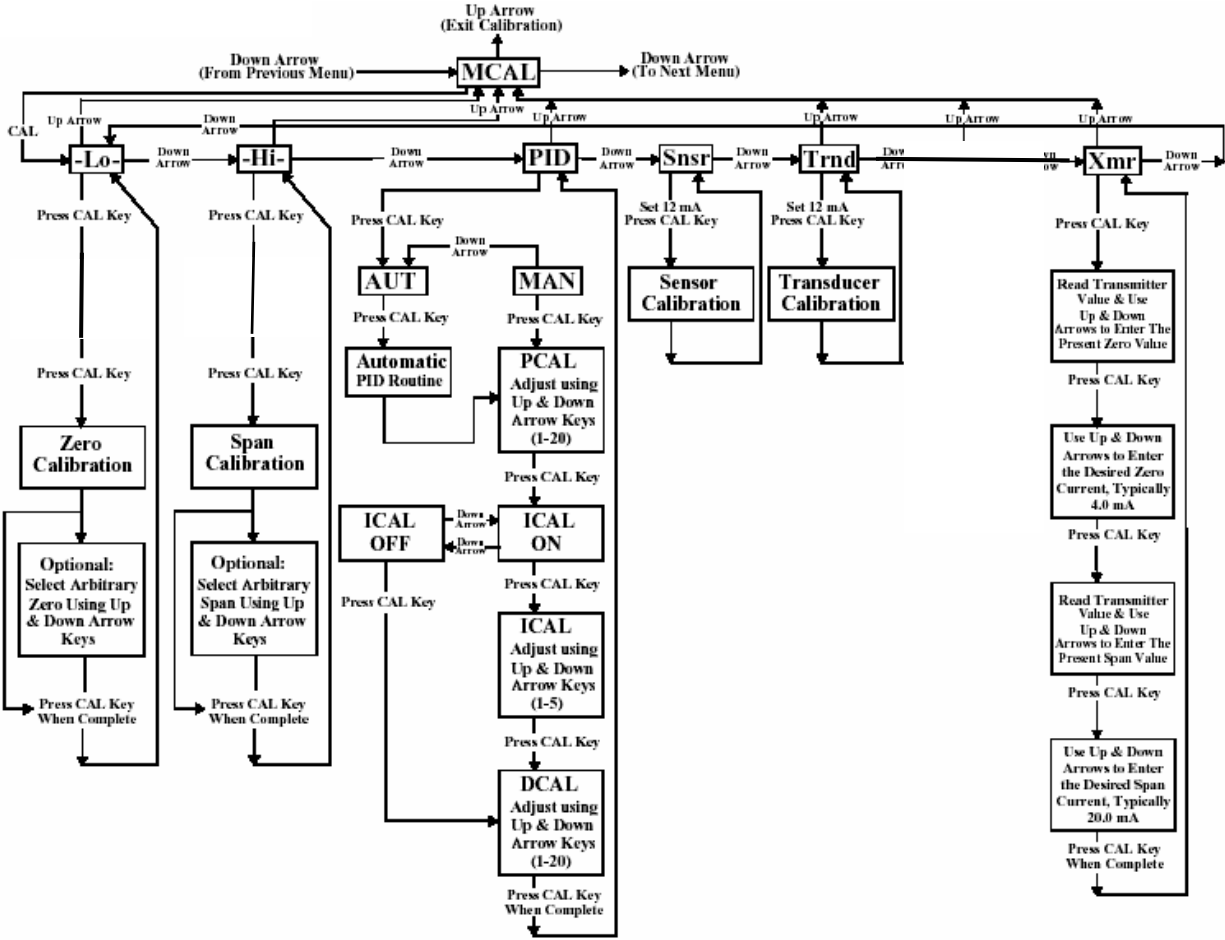

Figure 26
15.4.3. From the menu level press the down arrow button until MCAL is shown on the display (MCAL Routine shown in Figure 26 below).